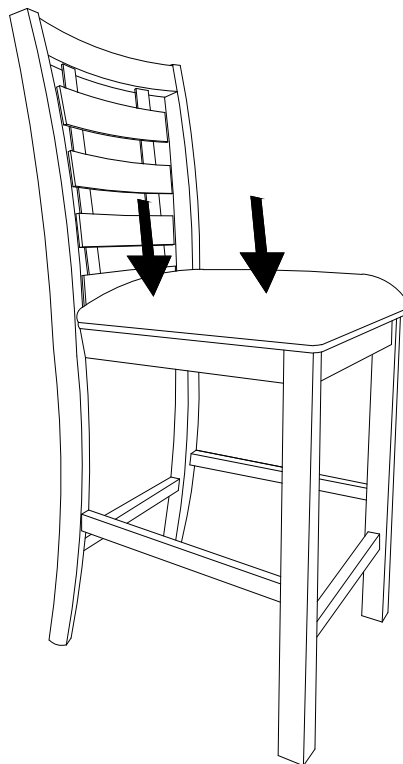

Fig. 8
Step 7: Place the loosely assembled chair on a hard flat surface and apply gentle downward pressure on the seat. As shown on Fig.8. Once the chair is balanced and leveled, fully tighten all bolts.